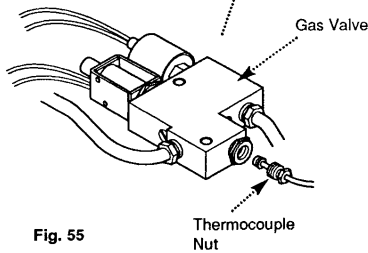

Fig. 55
3. Undo the thermocouple nut from the right hand side of the gas valve (Fig. 55).